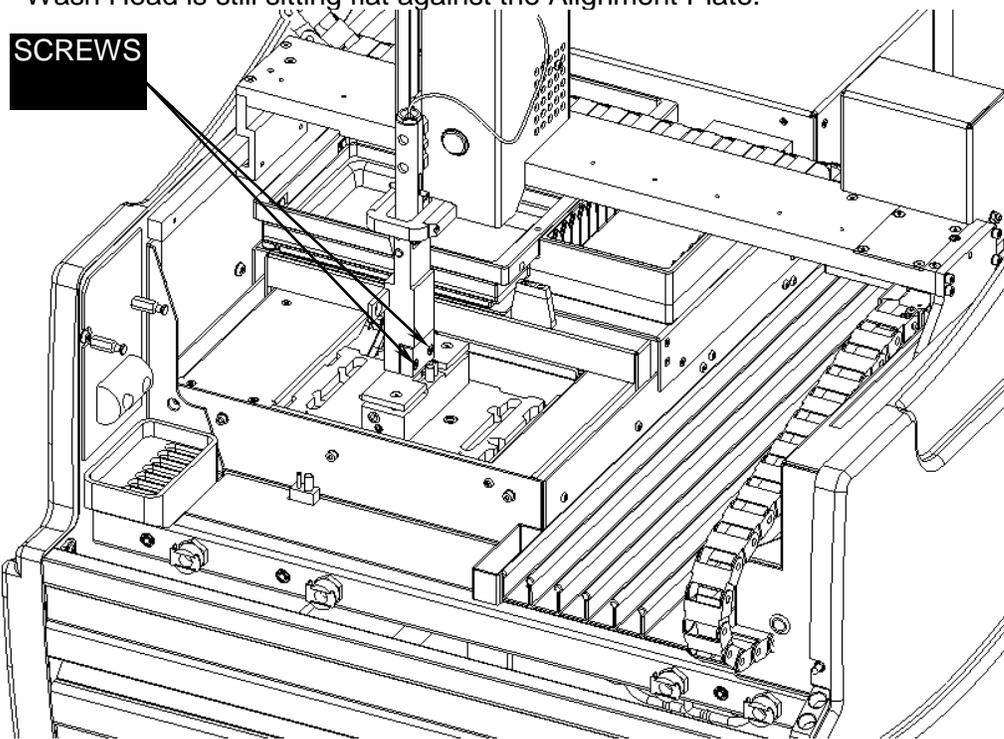

Figure 13-9: Tightening the Wash Head in Position
5. Sit the bottom face of the Wash Head onto the top face of the Alignment Plate and tighten the two screws to fix the Wash Head in position (Figure 13-9). Ensure the Wash Head is still sitting flat against the Alignment Plate.
8. Realign if the screws have been removed (Figure 13-9).